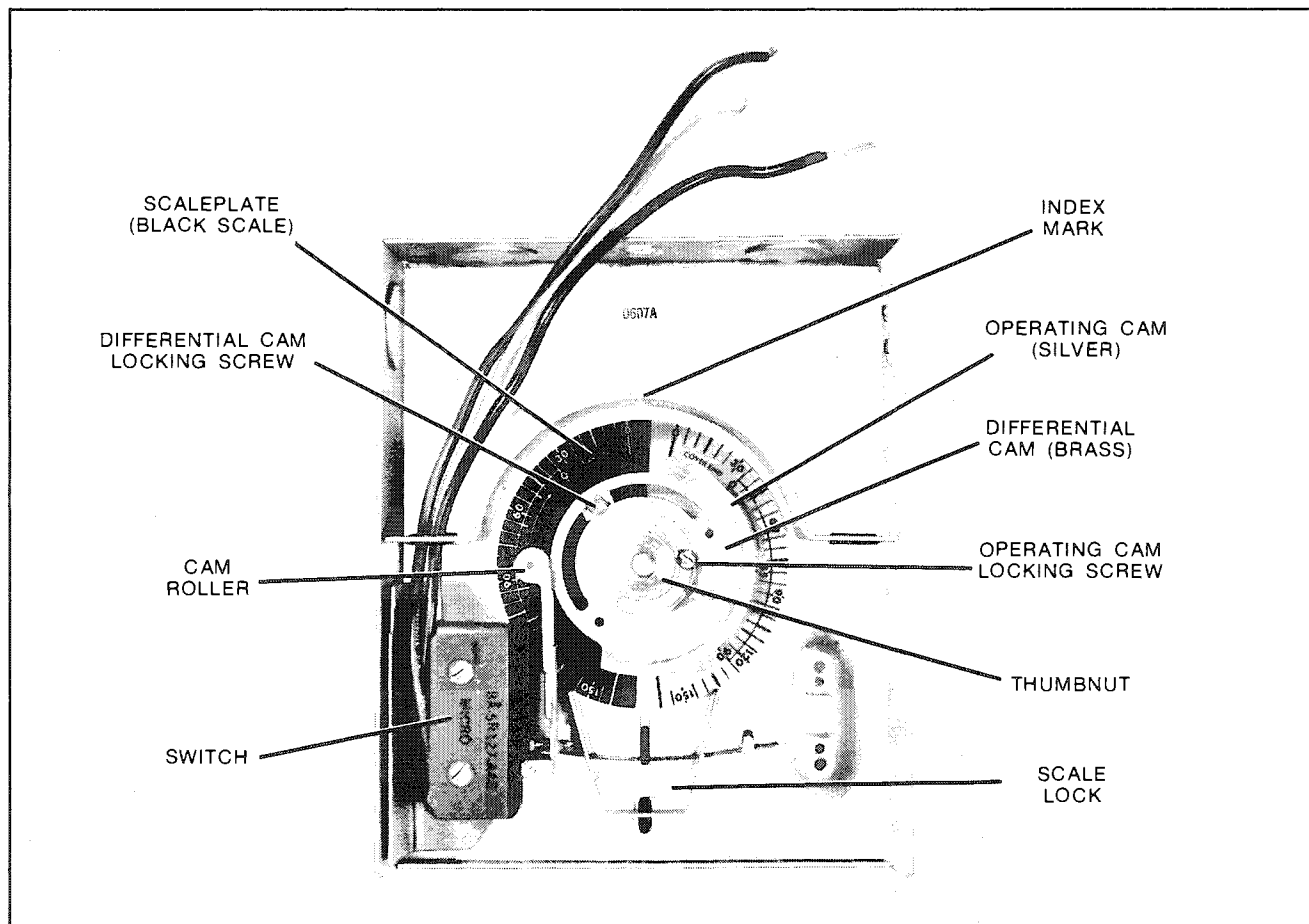

FIGURE 5-6. Q607A AUXILIARY SWITCH (SINGLE MICRO-SWITCH)
- a) BEFORE attaching the switch to the mounting bracket, depress the scale lock and rotate the scale so that the zero mark on the black scale is approximately at the index mark as shown in Figure 5-6.